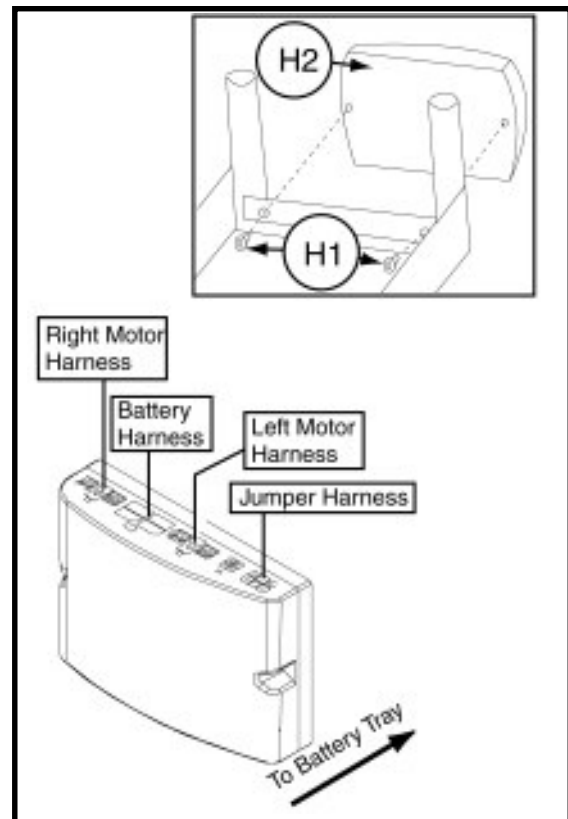

Figure 7. Control Module
1. Unplug the battery harness. See figure 7.